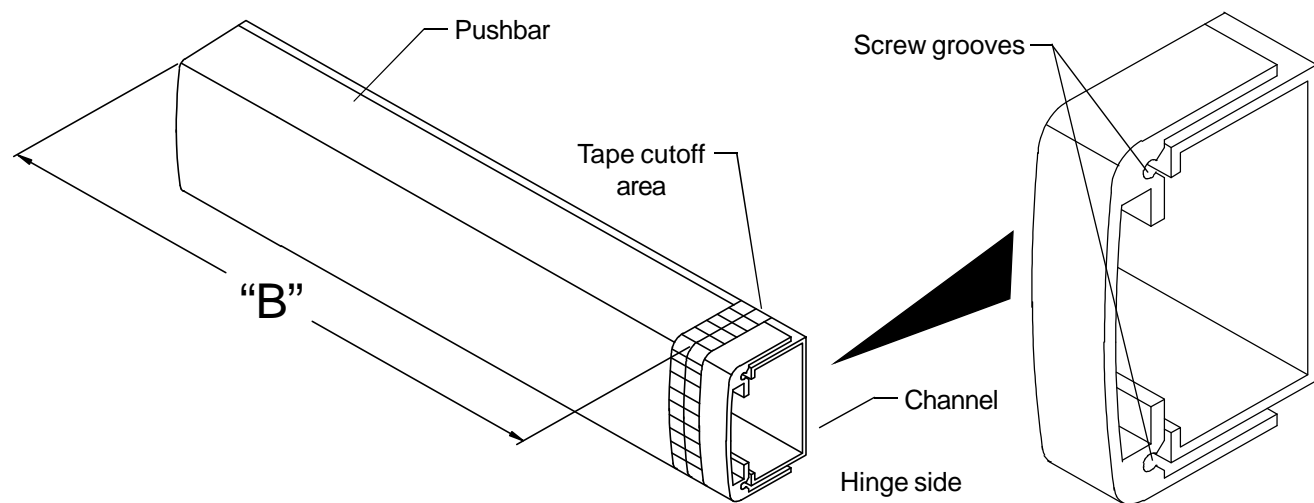

Figure 2
- 2.2. Subtract  $5/8"$  from "D" dimension to determine cut length ("B" dimension in Figure 2). See chart below for minimum "B" dimension.
- 2.3. Collapse pushbar, tape down in cutoff area, and mark "B" dimension on tape (see Figure 2).